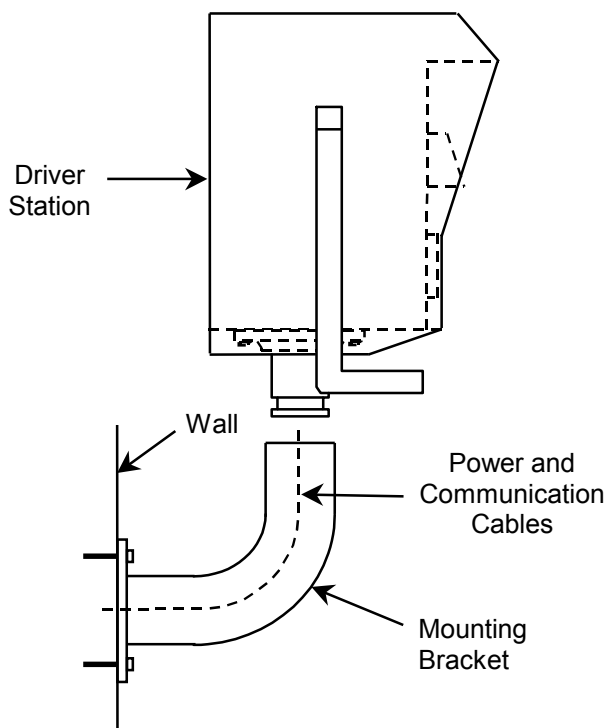

Figure 2-3: Wall Mount Installation
3. Route the cables through the mounting bracket. Then bolt the flanged end of the mounting bracket securely to the wall as shown in Figure 2-3.